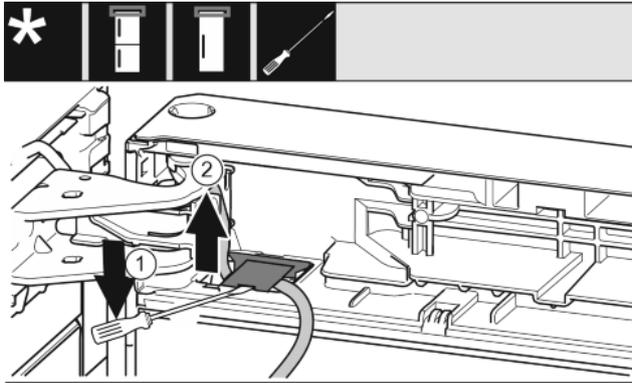

Fig. 17
- ▶ Lift up the cover with a screwdriver and pull it out. Fig. 17 (1)
- ▶ Pull out the cable. Fig. 17 (2)